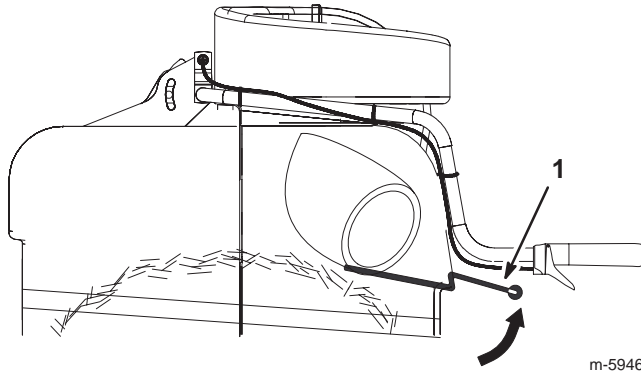

Figure 22
- A. Raise the gauge arm frequently (Fig. 22). If you feel resistance, it indicates the collector is full and needs to be emptied.